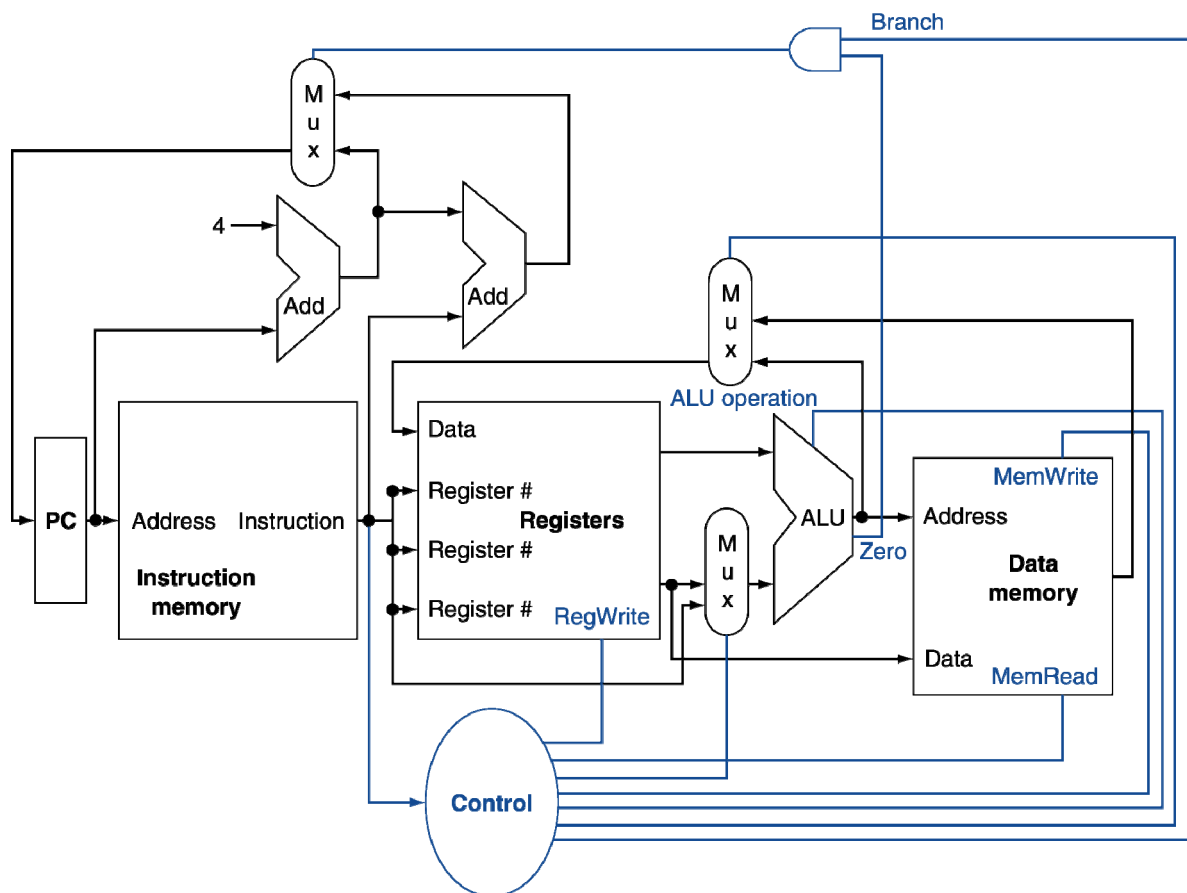

Figure 1: The basic implementation of the MIPS subset, including the necessary multiplexors and control lines.
1. Different instructions utilize different hardware blocks in the basic single-cycle implementation as shown in Figure 1. The next three problems refer to the following instruction:
- What are the values of control signals generated by the control in Figure 1 for this instruction?
to do their work). In Figure 1 there are seven kinds of major blocks. Latencies of blocks along the critical (longest-latency) path for an instruction determine the minimum latency of that instruction. For the following three problems, assume the following resource latencies:
- b. What is the critical path for a MIPS load (LD) instruction?
3. The basic single-cycle MIPS implementation in Figure 1 can only implement some instructions. New instructions can be added to an existing ISA, but the decision whether or not to do that depends, among other things, on the cost and complexity such an addition introduces into the processor datapath and control. The next three problems refer to this new instruction: